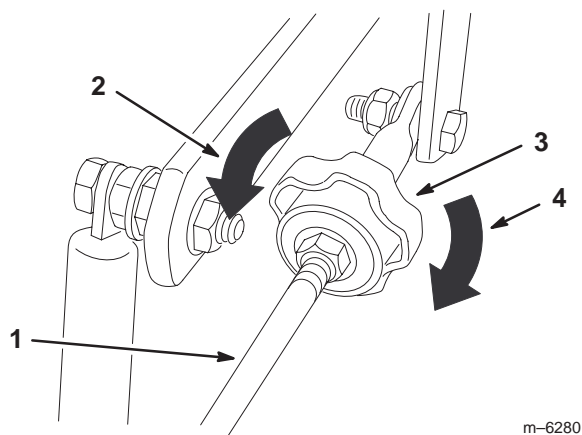

Figure 52
4. To make the machine go right, turn the knob towards the rightside of the machine. Refer to figure 52.
5. To make the machine go left, turn the knob towards the leftside of the machine. Refer to figure 52.